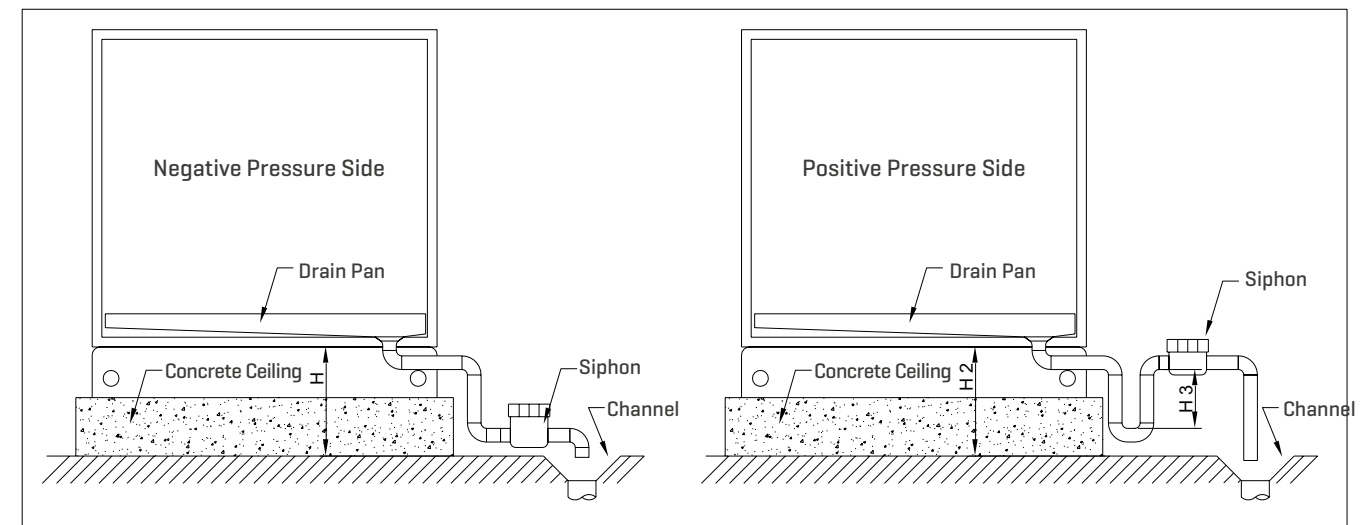

Figure 16. Siphon Connection for Positive and Negative Pressure
- The special siphon provided with the unit and placed inside the cell [for positive and negative pressure applications] must be correctly installed (Figure 16).